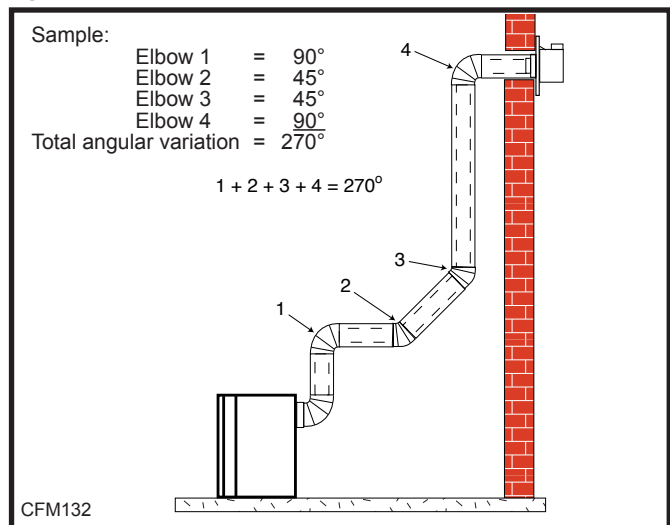

Fig. 21 Maximum number of elbows.
- The maximum number of elbow degrees in a system is 270°. (This does not include transition elbow from rear vent to vertical vent.) (Fig. 21)